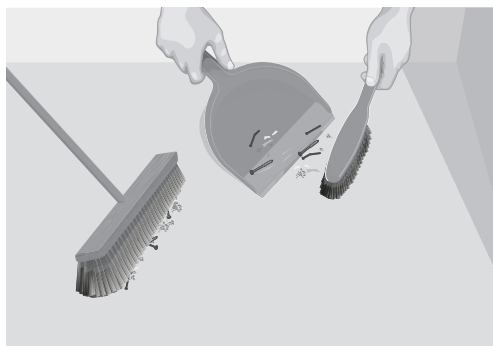

Fig.2. Clean room
1. Prepare place of installation (fig.2)